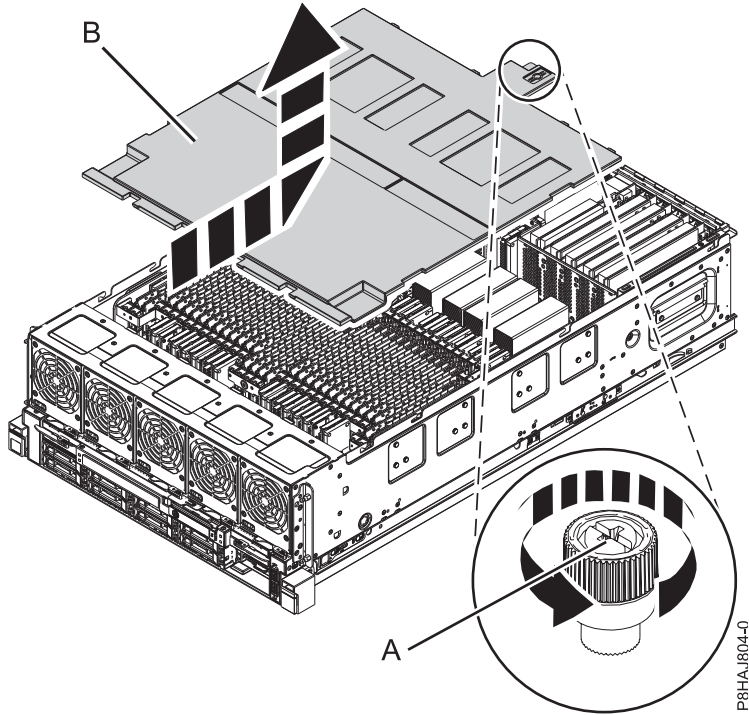

Figure 28. Removing the safety cover
2. Loosen the thumbscrew (A) located at the rear of the cover, by turning it in the direction shown in Figure 28 on page 46.
3. Slide the safety cover (B) toward the rear of the system. When the front of the cover has cleared the upper frame ledge, lift the cover up and off the system.